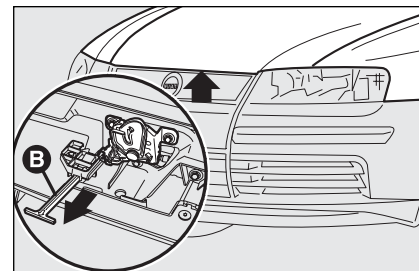

fig. 119
- pull lever **B**-fig. 119 and lift the bonnet.